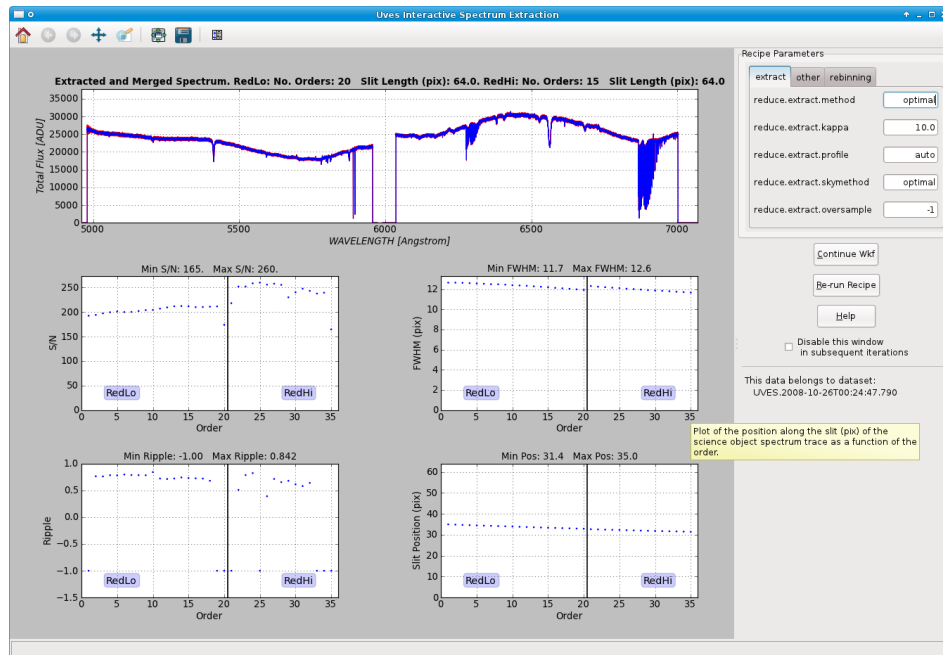

Figure 7.4: The interactive window for the Spectrum Extraction actor for the first DataSet in the data supplied with Reflex 2.3.
- Spectrum Extraction:** In Figure 7.4, we show the interactive window associated with the Spectrum Extraction actor, which executes the UVES pipeline recipe `uves_obs_scired`. This pipeline recipe performs the extraction of the science object spectrum using optimal extraction (Horne 1986), automatically selecting an analytical spatial profile (Gaussian or Moffat) in the case of low S/N spectra ($S/N < 10$) or an oversampled empirical spatial profile otherwise, and automatically determining the degrees of the low-order polynomials involved in the extraction process. The top plot in the interactive